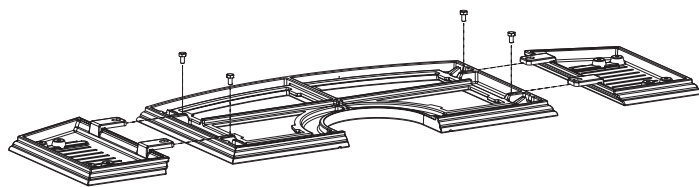

Figure 22
4. Place left and right side shelves in place shown in Figure 22.
8. Attach side shelf supports one at a time, using two ¼-20 hex head bolts per support, sliding support flush to casting before fully tightening bolts as shown in Figure 22.
NOTICE: Due to inherent properties of the casting process, non-combustible shims may be required to level accessory side shelves to the casting top. These shims are provided in the form of washers to be used on either side of the bolts. See Figure 22. If accessory shelf angles downward, toward the floor, washer(s) will need to be added to the center side of the bolt. Conversely, if the accessory side shelf angles upward, toward the ceiling, washer(s) will need to be added to the outside of the top casting side of the bolt. See Figure 25.